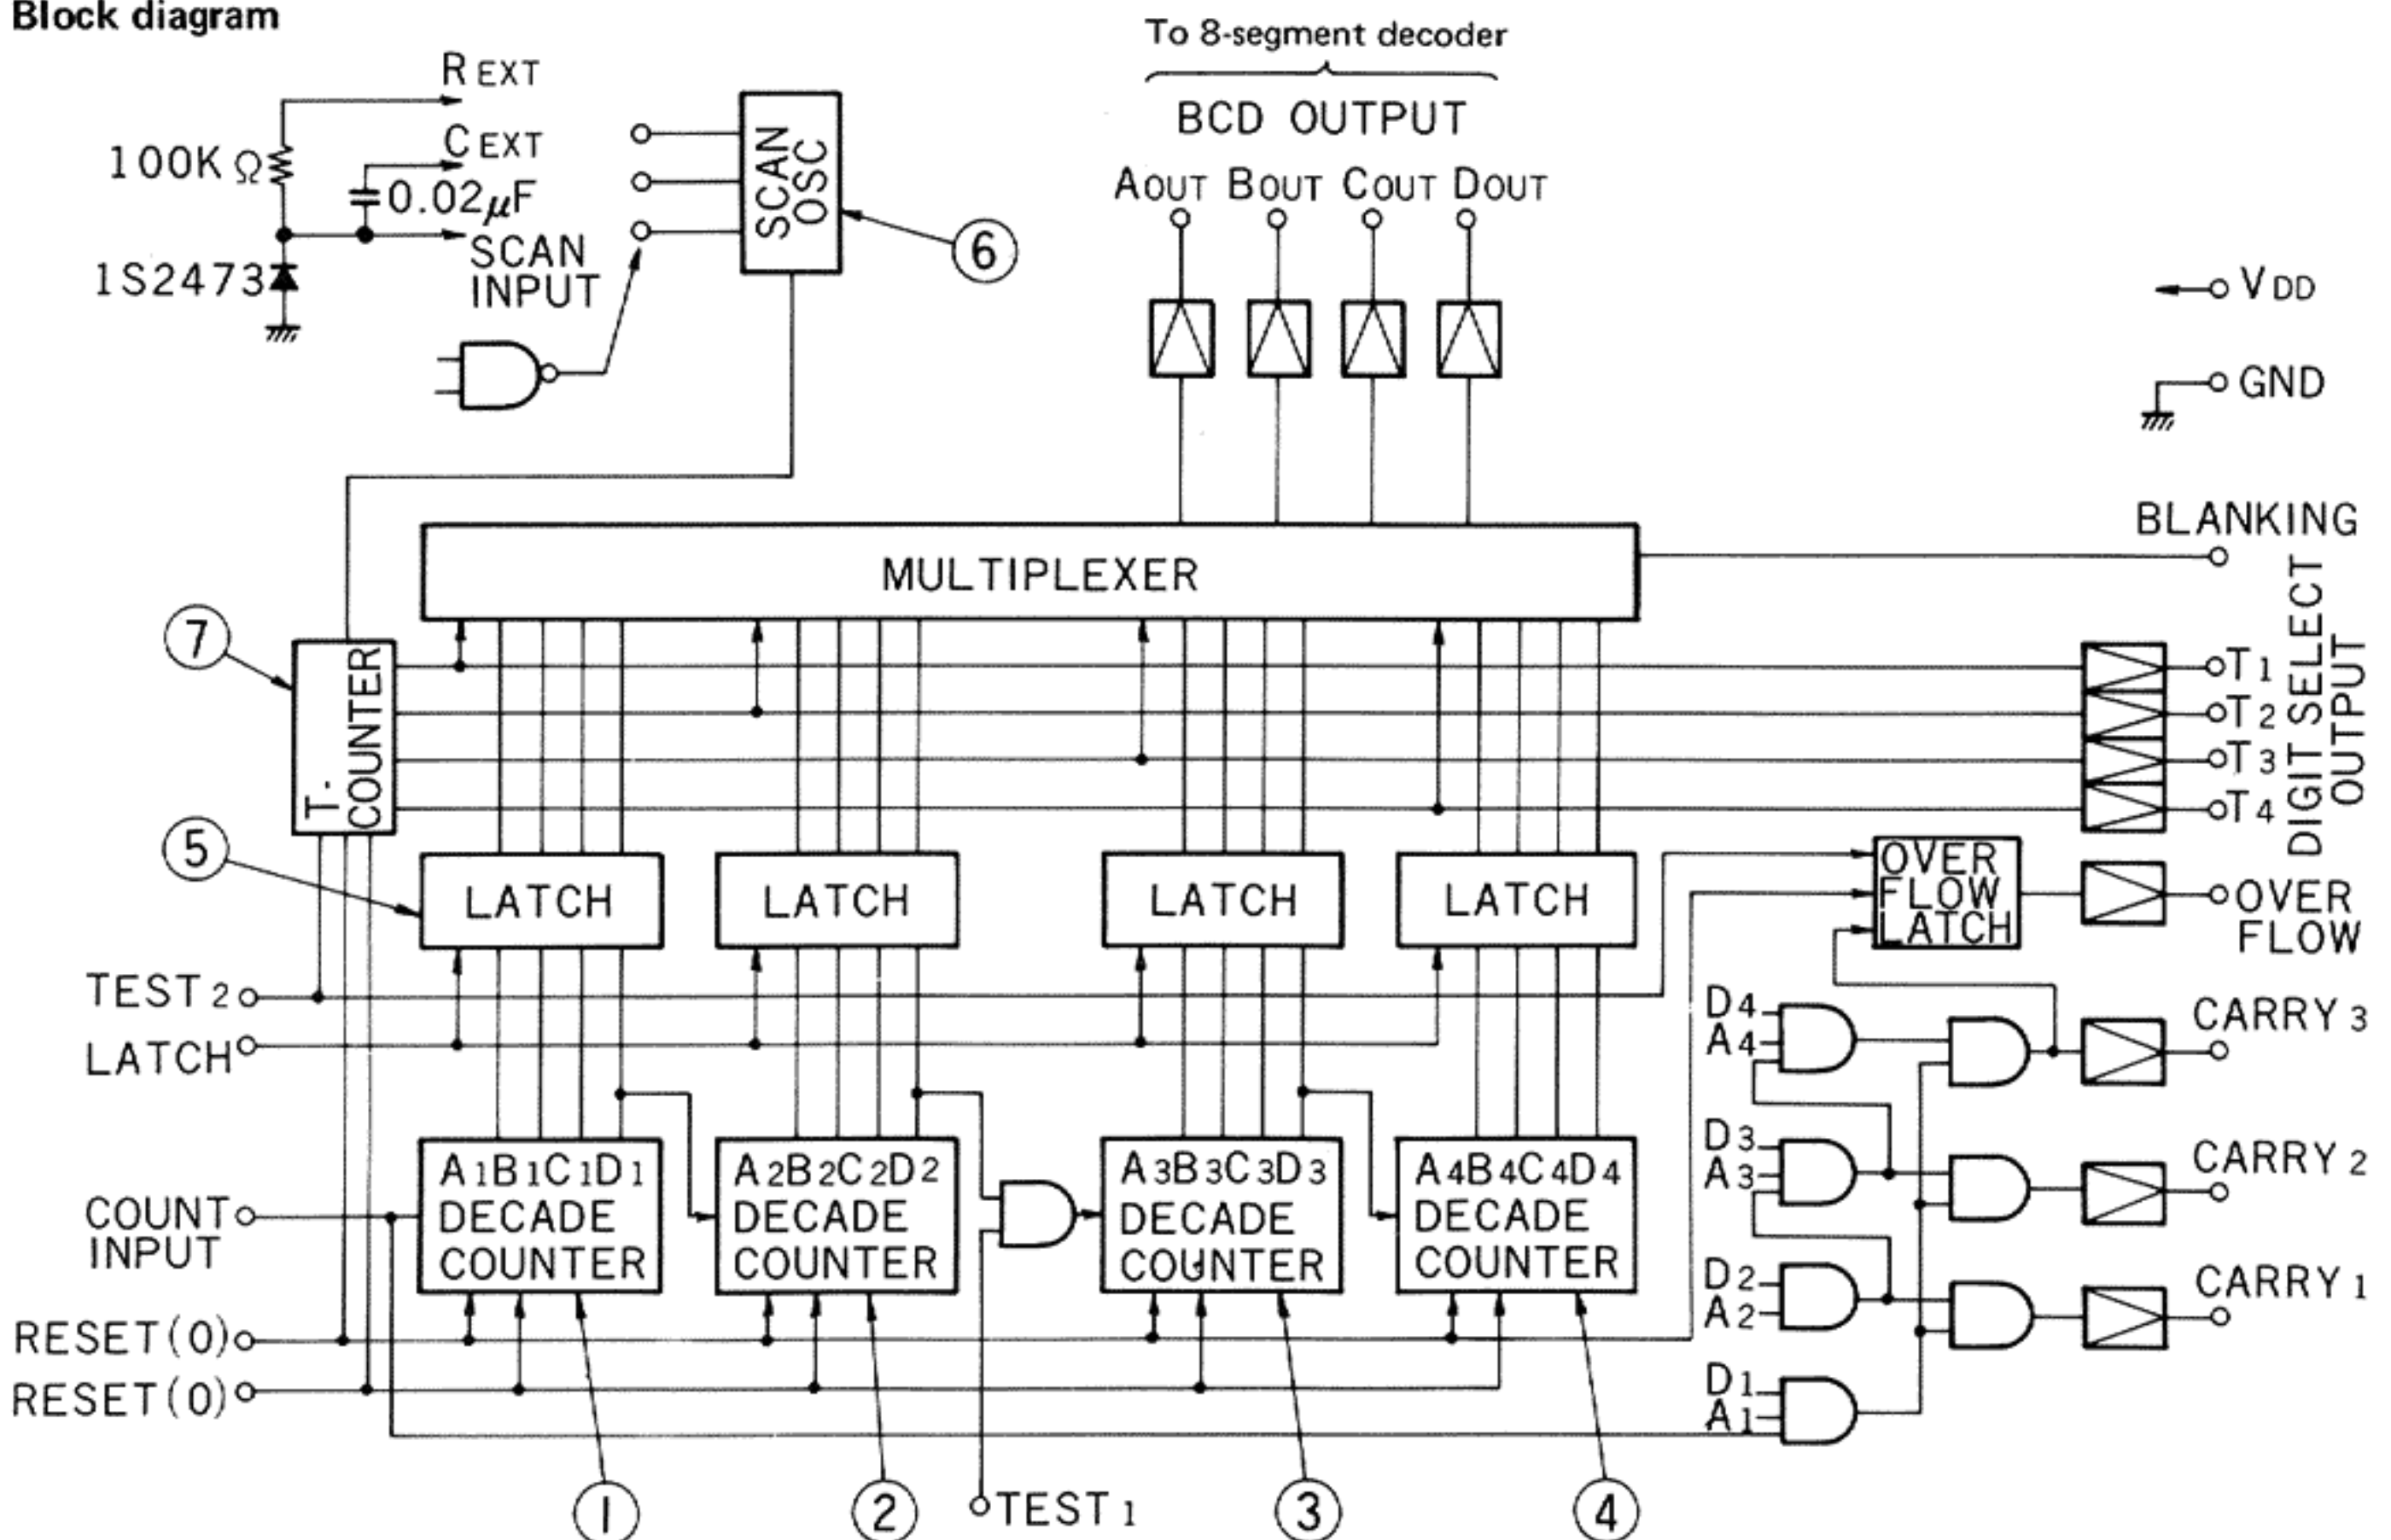
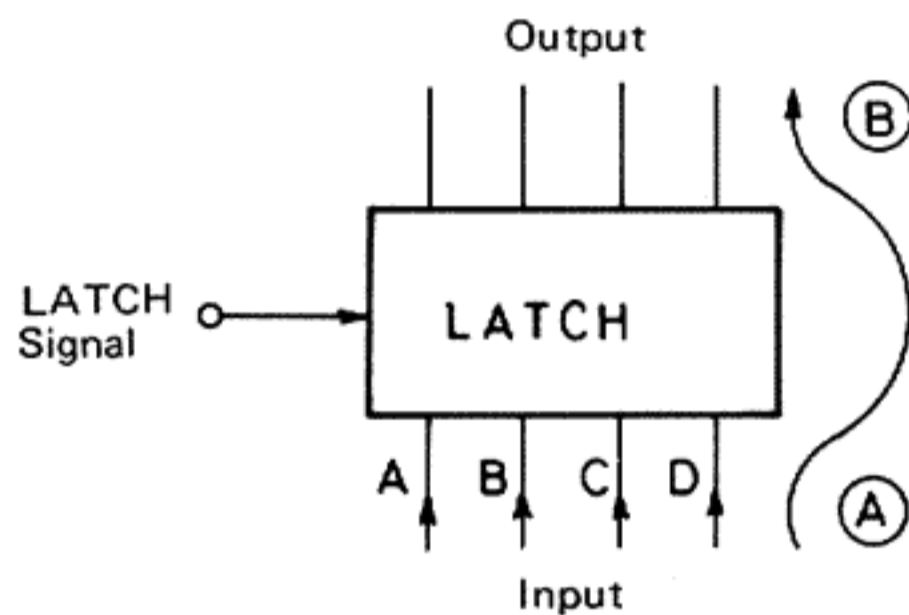

Fig. 17
Fig. 18
The output from each Decade Counter is input to one of the four "Latches" ⑤ in Figure 17, ANDed with a plus latch pulse input, then output to the Multiplexer as shown in Figure 18 (from A to B).
If the latch signal is High or plus, the Latch Circuit passes the BCD outputs from the Decade Counters without latching them. SCAN OSC ⑥ in Figure 17 is a 2kHz basic oscillator which permits the BCD outputs from the Dynamic Counter to be indicated in sequence. This causes T. Counter ⑦ in Figure 17 to produce T1 through T4 square wave Digit Select Outputs (see TC5001 Timing Chart) to drive Decade Counter respective outputs in the proper sequence.